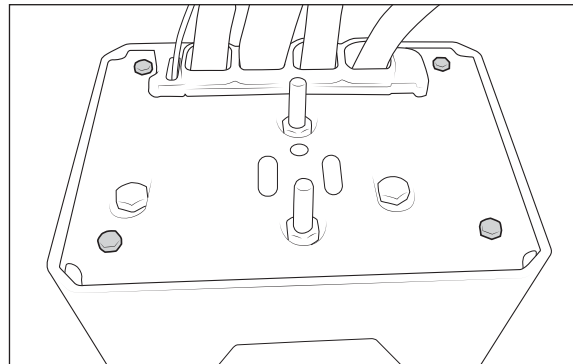

Figure 2
1. Open Warn winch controller by removing QTY 4 bolts on bottom corners of controller (fig. 2).